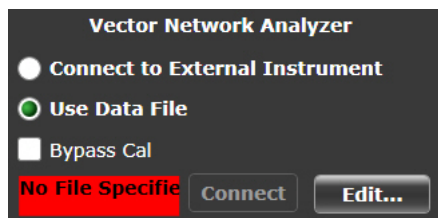

Figure 43 Use data file option for Vector Network Analyzer
- 12 Instead of connecting to the Vector Network Analyzer, you can also use the data file. Select the **Use Data File** check-box and the **Edit...** button appears, as shown in Figure 43.